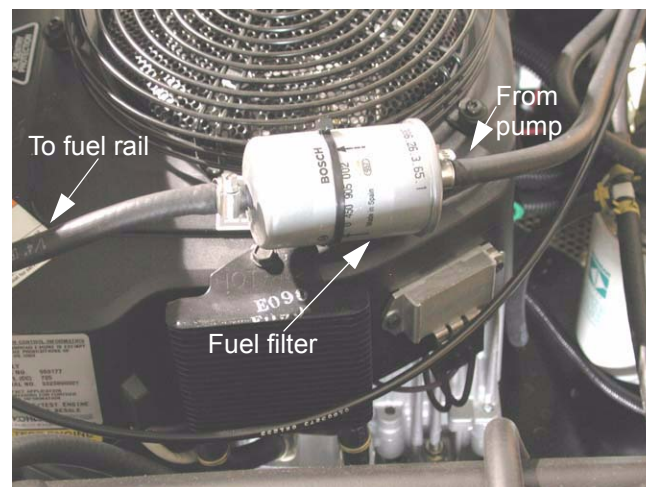

Figure 10.9
- 10.9. The fuel filter is easily accessible. See Figure 10.9.